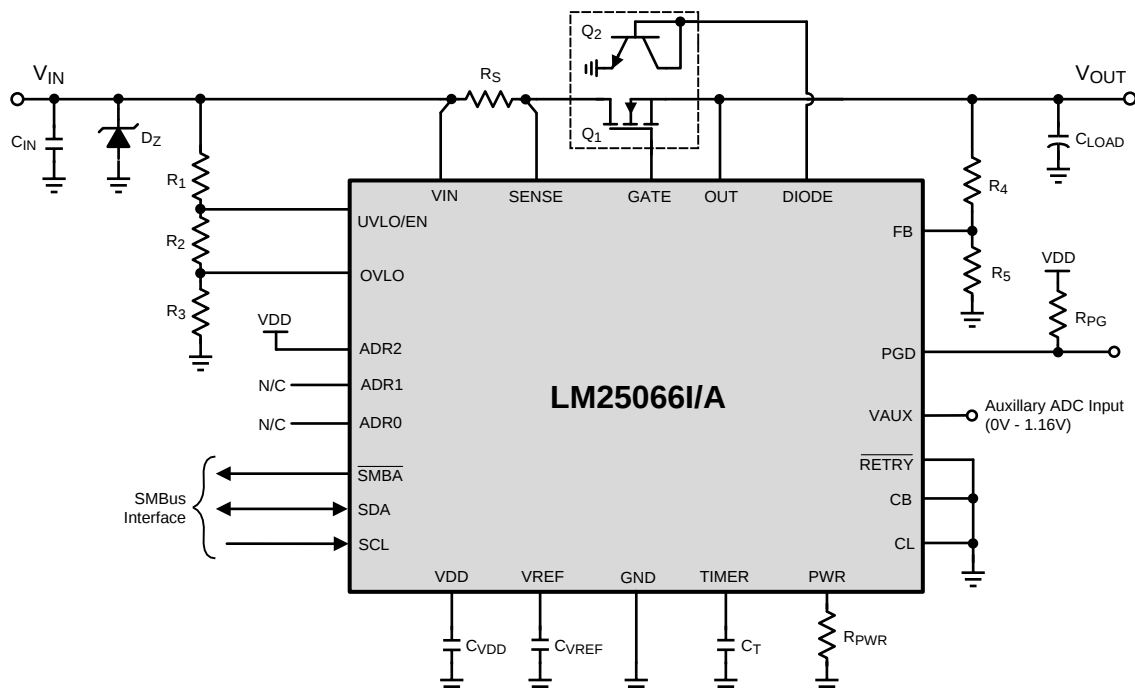
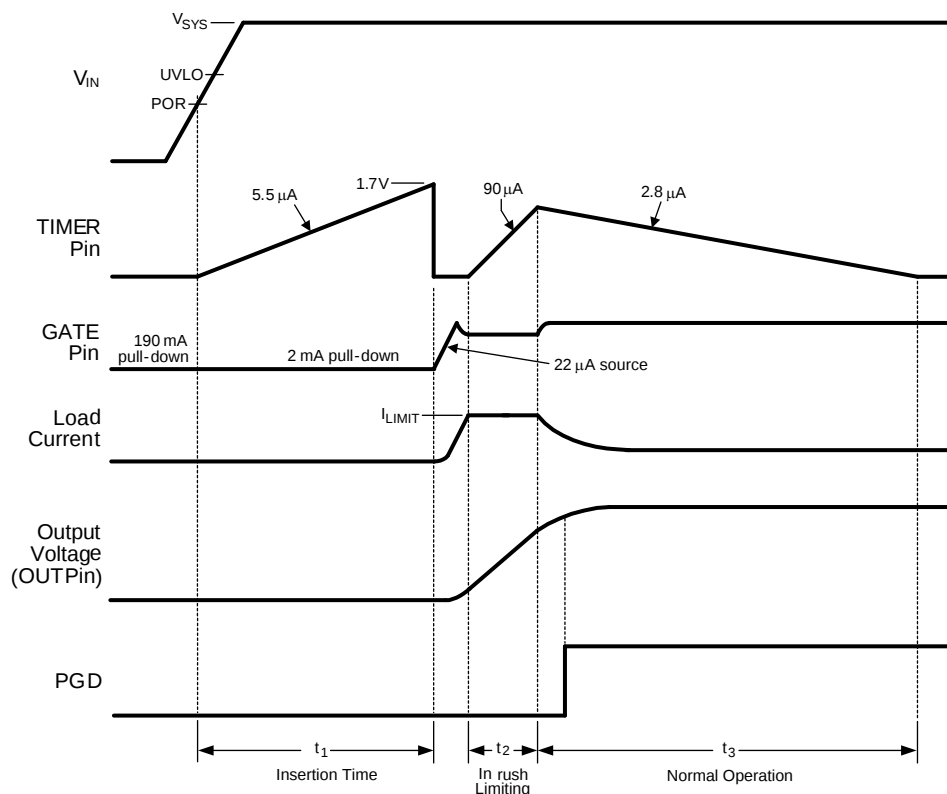

Figure 31. Typical Application Circuit
Figure 32. Power Up Sequence (Current Limit Only)
The V_{IN} operating range of the LM25066I/A is +2.9V to +17V, with transient capability to +24V. Referring to Figure 31 and Figure 32, as the voltage at V_{IN} initially increases, the external N-channel MOSFET (Q_1) is held off by an internal 190 mA pulldown current at the GATE pin. The strong pulldown current at the GATE pin prevents an inadvertent turn-on as the MOSFET’s gate-to-drain (Miller) capacitance is charged. Additionally, the TIMER pin is initially held at ground. When the V_{IN} voltage reaches the POR threshold, the insertion time begins. During the insertion time, the capacitor at the TIMER pin (C_T) is charged by a 5.5 μA current source and Q_1 is held off by a 2 mA pulldown current at the GATE pin regardless of the input voltage. The insertion time delay allows ringing and transients at V_{IN} to settle before Q_1 is enabled. The insertion time ends when the TIMER pin
As the voltage at the OUT pin increases, the LM25066I/A monitors the drain current and power dissipation of MOSFET Q_1 . Inrush current limiting and/or power limiting circuits actively control the current delivered to the load. During the inrush limiting interval (t_2 in Figure 32), an internal 90 μ A fault timer current source charges C_T . If Q_1 's power dissipation and the input current reduce below their respective limiting thresholds before the TIMER pin reaches 1.7V, the 90 μ A current source is switched off and C_T is discharged by the internal 2.8 μ A current sink (t_3 in Figure 32). The PGD pin switches high when FB exceeds its rising threshold of 1.167V.
A charge pump provides the voltage at the GATE pin to enhance the N-Channel MOSFET's gate. During normal operating conditions (t_3 in Figure 32) the gate of Q_1 is held charged by an internal 22 μ A current source. The voltage at the GATE pin (with respect to ground) is limited by an internal 18.8 V zener diode. See the graph "GATE Pin Voltage" shown previously. Since the gate-to-source voltage applied to Q_1 could be as high as 18.8 V during various conditions, a zener diode with the appropriate voltage rating must be added between the GATE and OUT pins if the maximum V_{GS} rating of the selected MOSFET is less than 18.8 V. The external zener diode must have a forward current rating of at least 190 mA. When the system voltage is initially applied, the GATE pin is held low by a 190 mA pulldown current. This helps prevent an inadvertent turn-on of the MOSFET through its drain-gate capacitance as the applied system voltage increases.
During the insertion time (t_1 in Figure 32) the GATE pin is held low by a 2 mA pulldown current. This maintains Q_1 in the off-state until the end of t_1 , regardless of the voltage at VIN or UVLO. Following the insertion time (t_2 in Figure 32), the gate voltage of Q_1 is controlled to keep the current or power dissipation level from exceeding the programmed levels. While in the current or power limiting mode, the TIMER pin capacitor is charging. If the current and power limiting cease before the TIMER pin reaches 1.7V, the TIMER pin capacitor then discharges, and the circuit begins normal operation. If the inrush limiting condition persists such that the TIMER pin reached 1.7V during t_2 , the GATE pin is then pulled low by the 190 mA pulldown current. The GATE pin is then held low until either a power up sequence is initiated (RETRY pin to VDD), or an automatic retry is attempted (RETRY pin to GROUND). See Fault Timer and Restart. If the system input voltage falls below the UVLO threshold or rises above the OVLO threshold, the GATE pin is pulled low by the 2 mA pulldown current to switch off Q_1 .
When the current limit or power limit threshold is reached during turn-on, or as a result of a fault condition, the gate-to-source voltage of Q_1 is controlled to regulate the load current and power dissipation in Q_1 . When either limiting function is active, a 90 μ A fault timer current source charges the external capacitor (C_T) at the TIMER pin as shown in Figure 32 (Fault Timeout Period). If the fault condition subsides during the Fault Timeout Period before the TIMER pin reaches 1.7V, the LM25066I/A returns to the normal operating mode and C_T is discharged by the 1.9 mA current sink. If the TIMER pin reaches 1.7V during the Fault Timeout Period, Q_1 is switched off by a 2 mA pulldown current at the GATE pin. The subsequent restart procedure then depends on the selected retry configuration.
A) Insertion Delay -Upon applying the system voltage (V_{SYS}) to the circuit, the external MOSFET (Q_1) is held off during the insertion time (t_1 in Figure 32) to allow ringing and transients at V_{SYS} to settle. Since each backplane's response to a circuit card plug-in is unique, the worst case settling time must be determined for each application. The insertion time starts when VIN reaches the POR threshold, at which time the internal 5.5 μA current source charges C_T from 0V to 1.7V. The required capacitor value is calculated from: